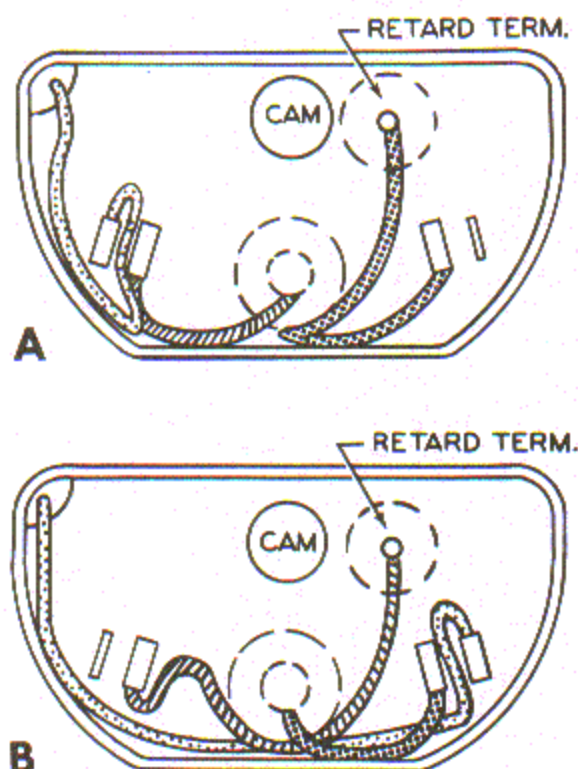

Figure 2
6. For magnetos with clockwise rotation, form the leads in the breaker compartment as follows: (See A Figure 2.)
7. For magneto with counter-clockwise rotation, form the leads in the breaker compartment as follows: (See B Figure 2.)